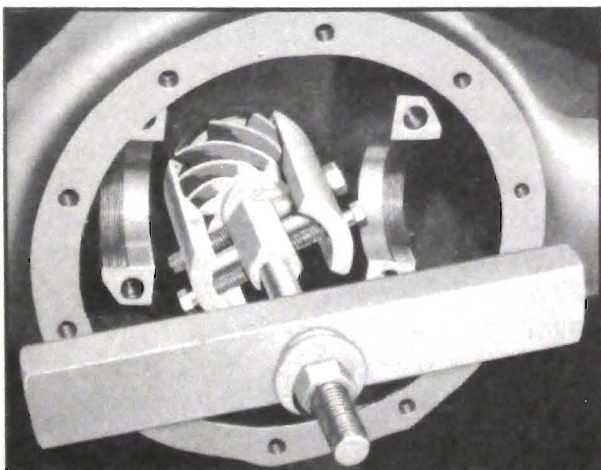

Figure 5-8—Pinion Puller
4. If gear ratio is 4.1 to 1, the pinion and propeller shaft may be pulled by means of the puller shown in figure 5-8. This puller will not fit over the pinions of the 3.6 and 3.9 gear sets; therefore, in those jobs the parts must be removed by tapping on the front end of propeller shaft, using a babbitt hammer, brass bar, or a protective cap to avoid damaging shaft.